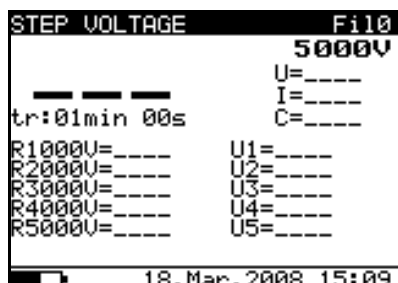
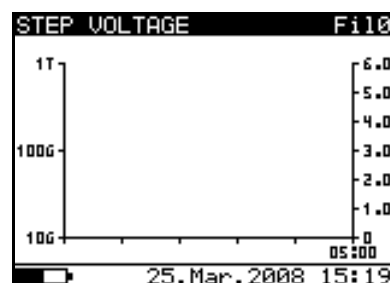

Fig. 34: Initial numerical screen
Fig. 35: Initial graphical screen
2. Select with arrow keys ▼ or ▲ the item “STEP VOLTAGE” on main menu and confirm with **SELECT** key. The screen of Fig. 34 is shown by the meter. In case of activation of Graphic R(t) option press arrow keys ▼ or ▲ to select the graphical screen of Fig. 35